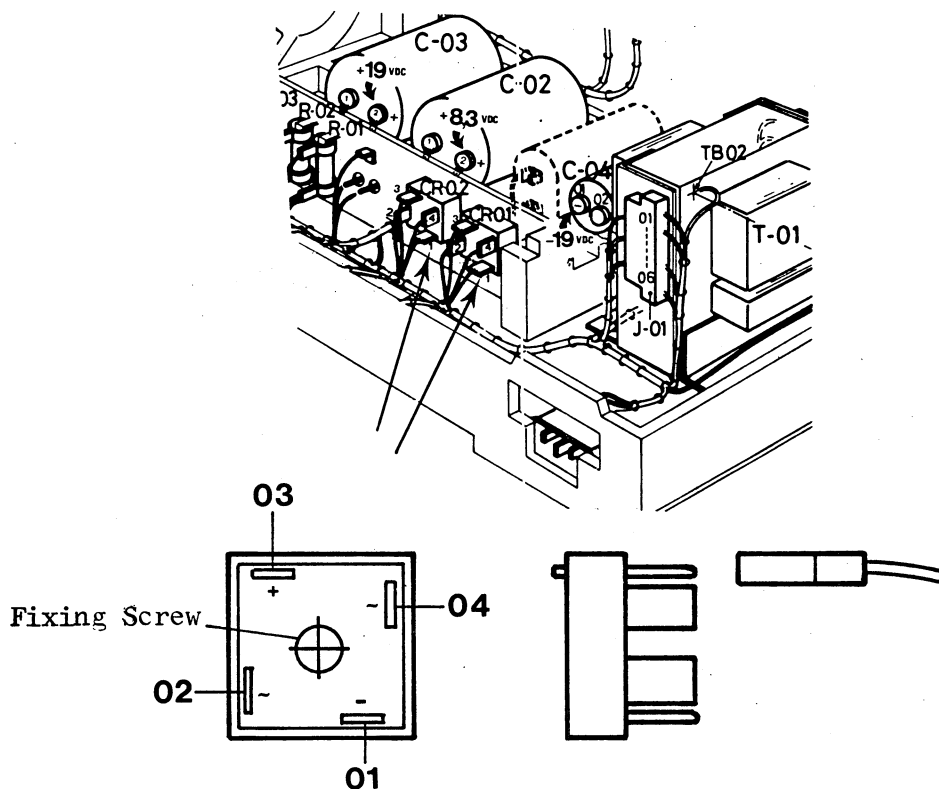

Fig. 7-3 CR01 and CR02 Diode bridge Localization
- . Remove the pertinent cables (Fig. 7-3 ) from pins 1-2-3-4 of the diode bridge
- . Remove the screw (1) fixing the diode bridge to the frame